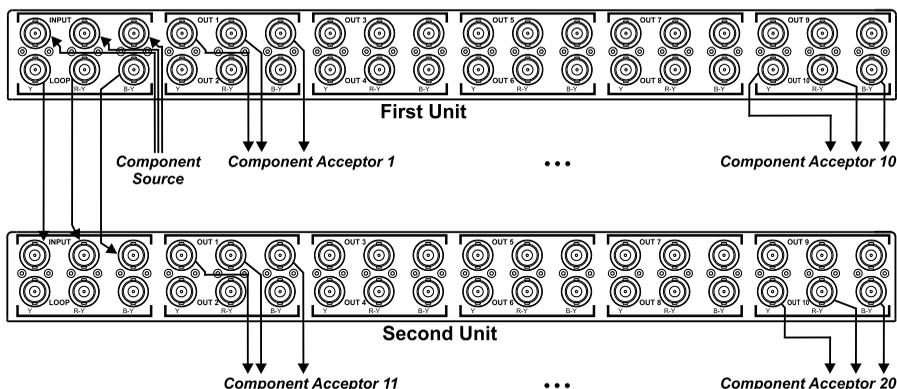

Figure 4: Connecting Several VM-100CB Units
You can connect several **VM-100CB** units to form an expanded video component distributor. For example, as Figure 4 illustrates, connect two **VM-100CB** units to form a *1:20 Video Component Distributor*.
5. Connect both power cords³ (not illustrated in Figure 4).